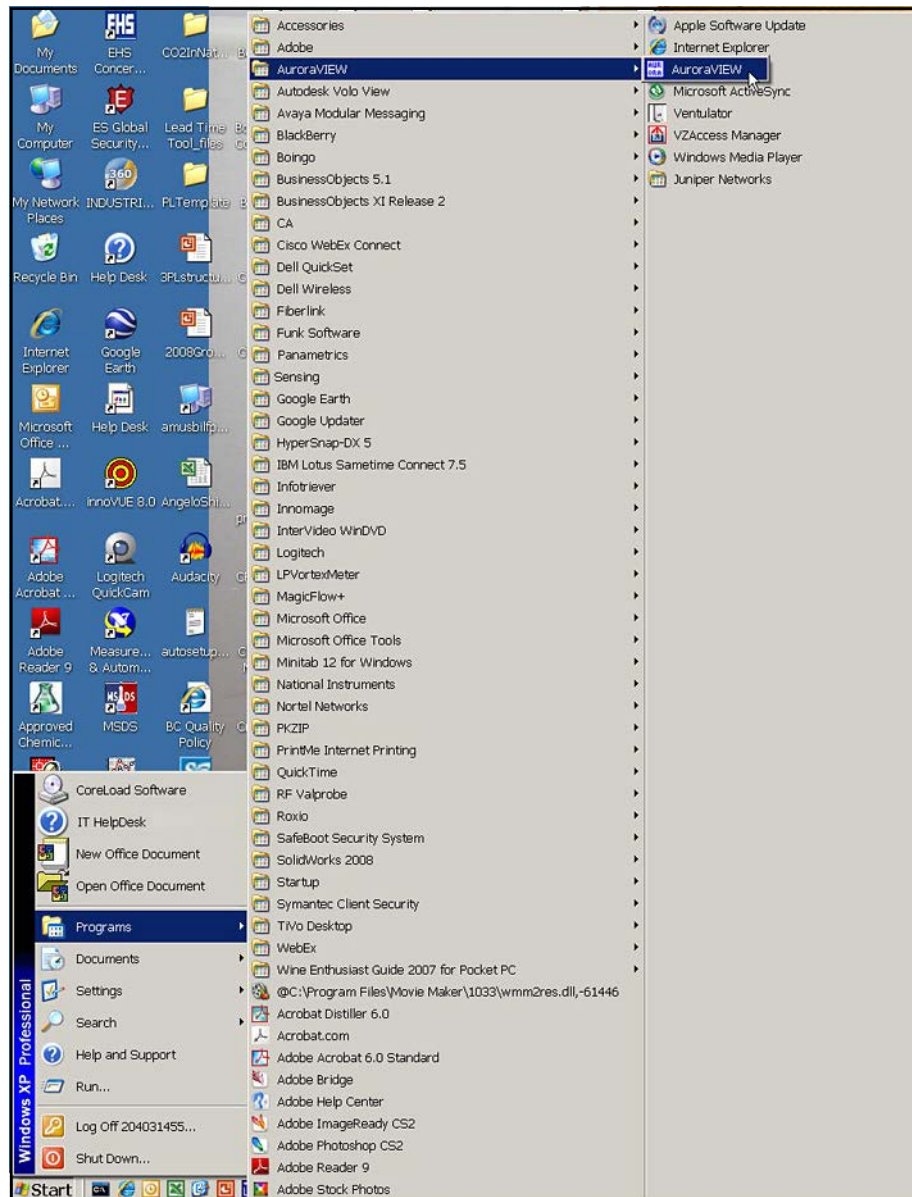

Figure 59: *AuroraView* in Programs Menu
1. From the Start menu, click **Programs** → **AuroraView** → **AuroraView** (see *Figure 59* below).